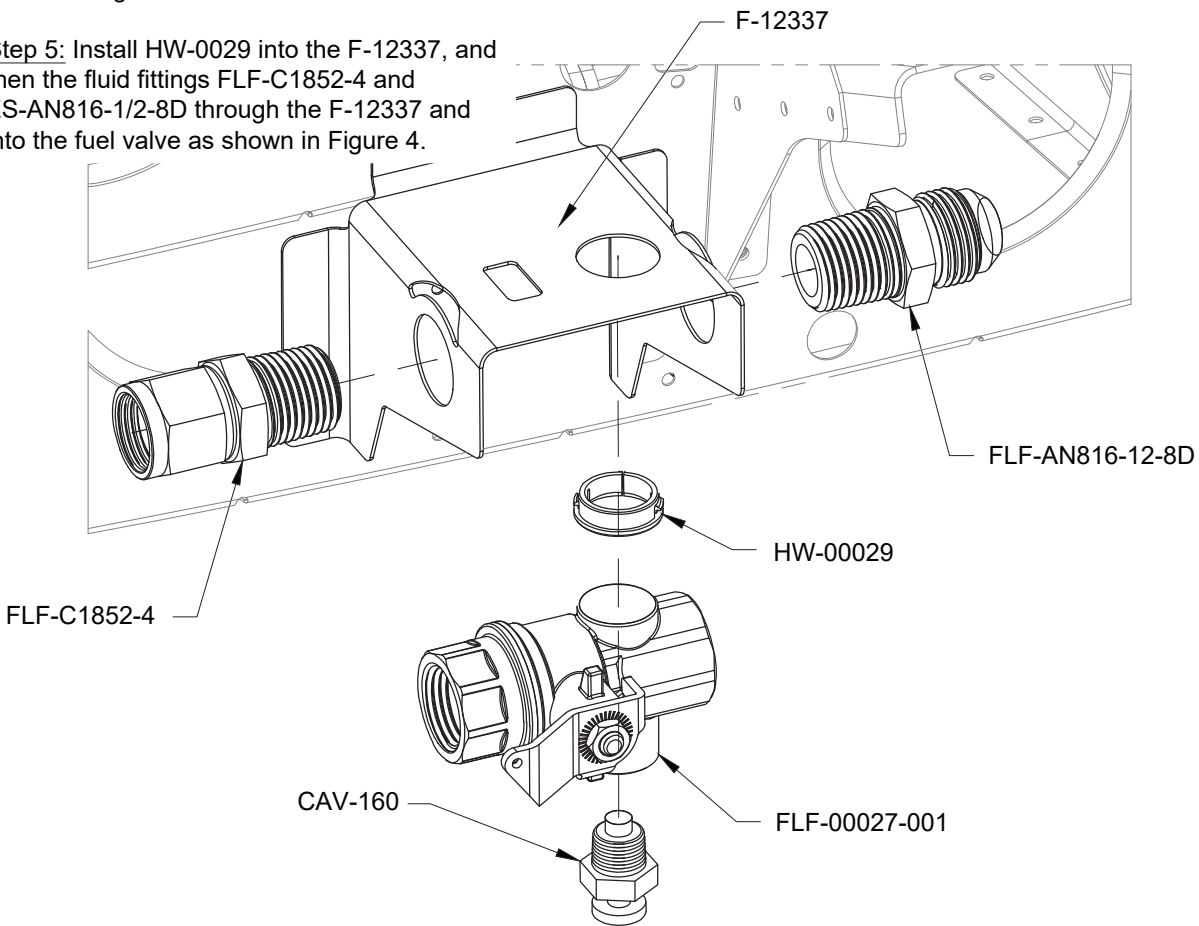

FIGURE 4: FLF-00027-001 ASSEMBLY
Step 4: Install CAV-160 into the fuel valve as shown in Figure 4.
Step 5: Install HW-0029 into the F-12337, and then the fluid fittings FLF-C1852-4 and ES-AN816-1/2-8D through the F-12337 and into the fuel valve as shown in Figure 4.